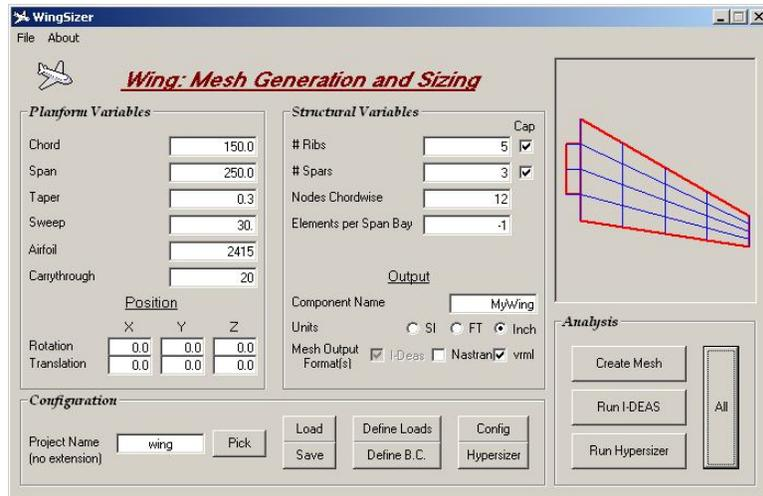

Figure 8. Visual Basic Front End for Wing Sizing tool
the specified wing, (2) call the finite element code I-DEAS to apply a specified pressure load and solve the FEA system, and (3) call HyperSizer [5] to compute the required weight of the wing, report back the weight, and report if any negative margins of safety were computed. Figure 8 shows the Visual Basic interface for the wing sizing tool.